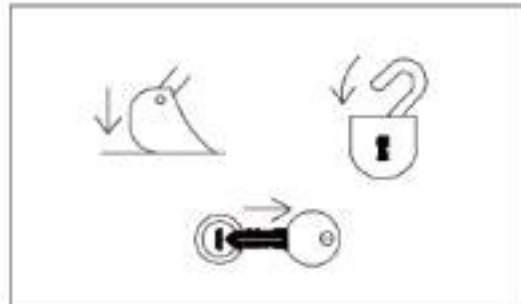

Figure 1-33 Lock signs
b) When leaving the machine, be sure to completely lower the working device down to the ground and lock the locking lever before turning off the engine. Lock all equipments, remove the key and put it on the specified location, as shown in Figure 1-33.